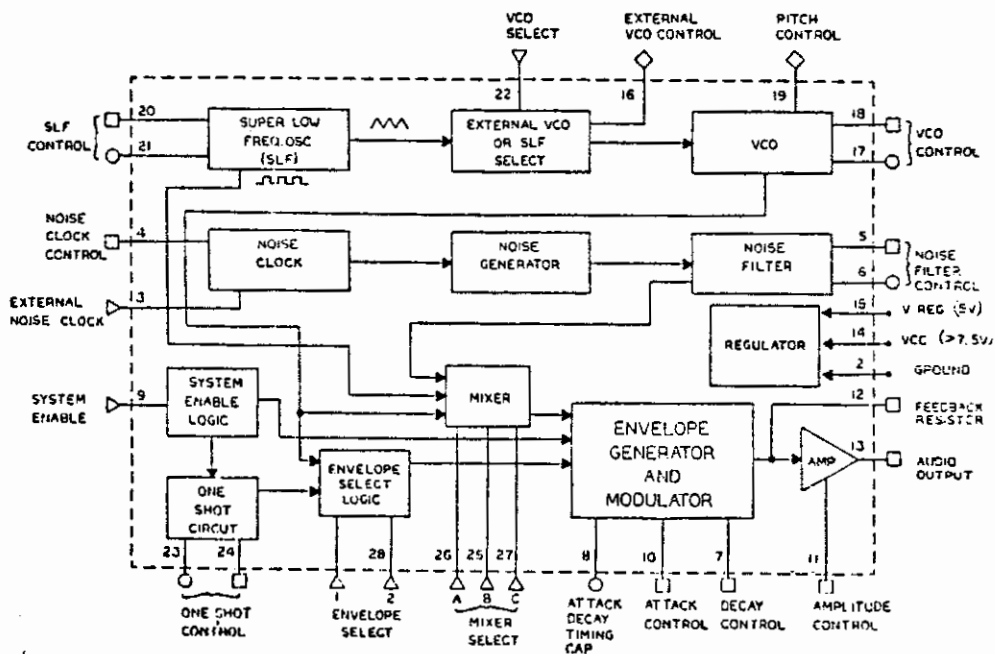

FIGURE 1: SN76477 BLOCK DIAGRAM
When most mechanical sounds and sounds that occur in nature are broken down, it is observed that they are composed of one or more of three basic sound functions. These sound functions are (1) a single frequency, (2) varying frequencies, and (3) random noise. The SN76477 has been designed to produce these functions or a combination thereof so that user-defined sounds can be easily constructed. The output can be a continuous wave, or one-shot timing can be selected. Output wave shapes can be tailored with attack times, decay times, amplitude control, and various envelope selections. A basic block diagram is illustrated in Figure 1 below.